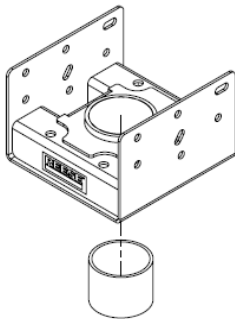
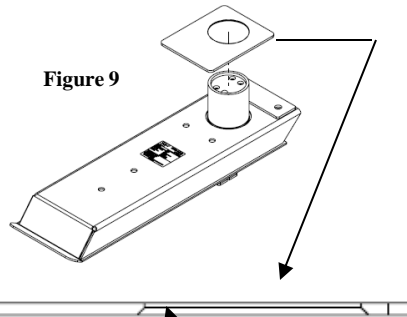

Figure 8
Figure 9
5. Install pivot bushing into the turret as shown in figure 8. Applying white lithium grease to the inner tube of the turret may ease assembly. Install wear plate onto sidewinder arm (Figure 9), be sure to place the chamfer facing down (Figure 10). Apply white lithium grease to the surfaces shown in figure 11, be sure to coat the entire surface.